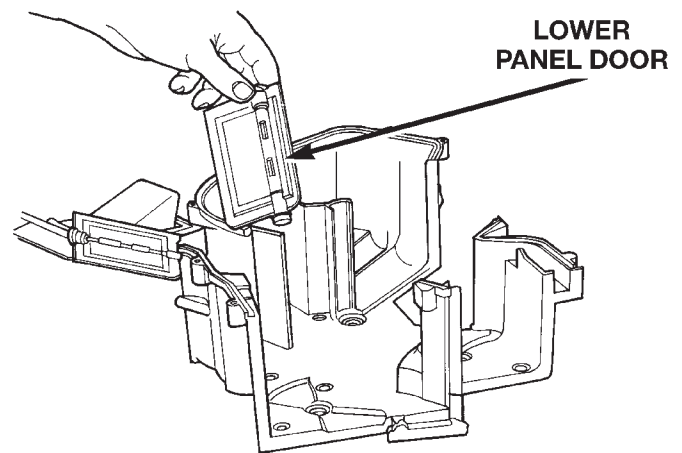

Fig. 79 Lower Panel Door
(26) Remove lower half of the Panel door (Fig. 79).